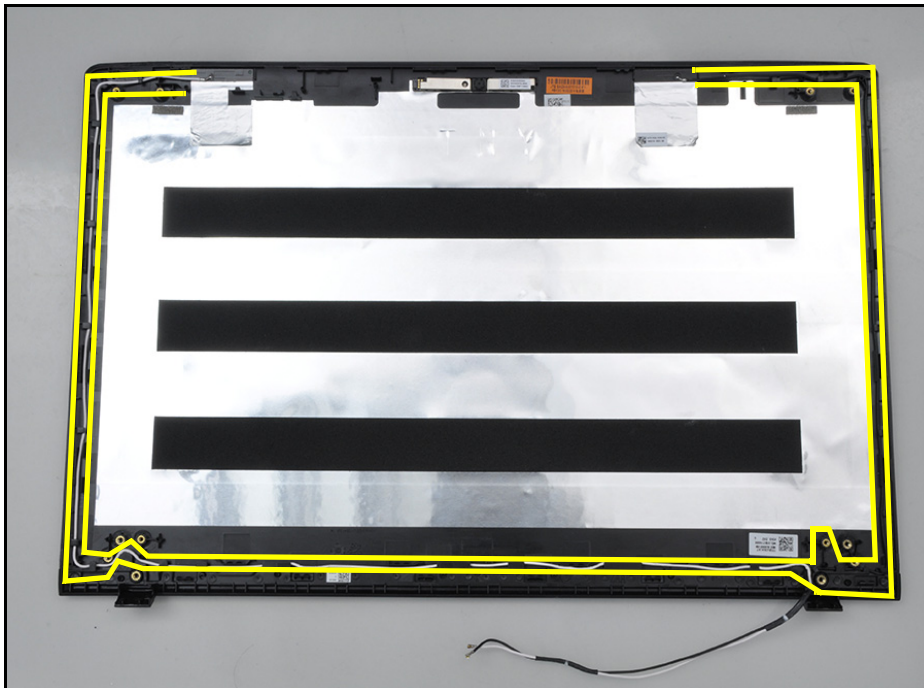

Figure 3-67. WLAN Antenna Removal
1. Unroute the antennas cables from the cable guides (Figure 3-67).